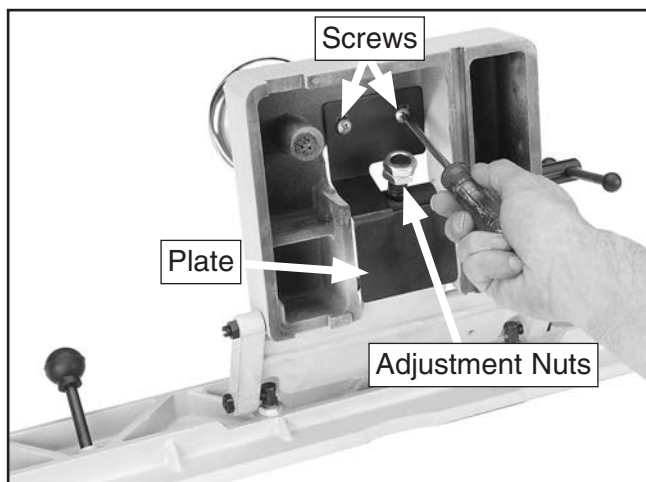

Figure 49. Removing plate to access inward fence stop.
1. Remove the fence assembly from the jointer, remove the Phillips head screws from the plate shown in **Figure 49** under the fence carriage. The plate must be removed to access the adjustment nuts.